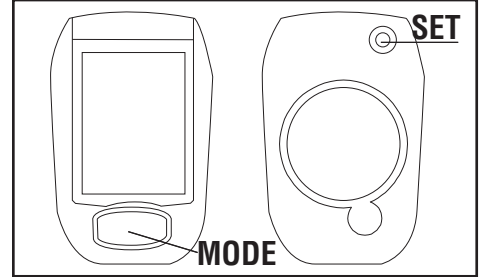

FIGURE 3
STEP 1: Press the MODE button to advance to the Clock display screen (CLK). Then press and hold the red SET button on the underside of the computer to enter set-up mode. See Figure 3.